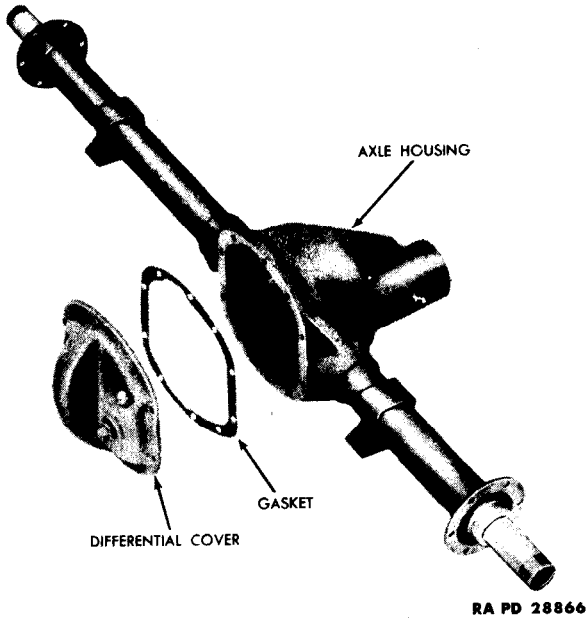

Figure 79 - Rear Axle Housing
(1) **AXLE HOUSING AND COVER** (fig. 79).